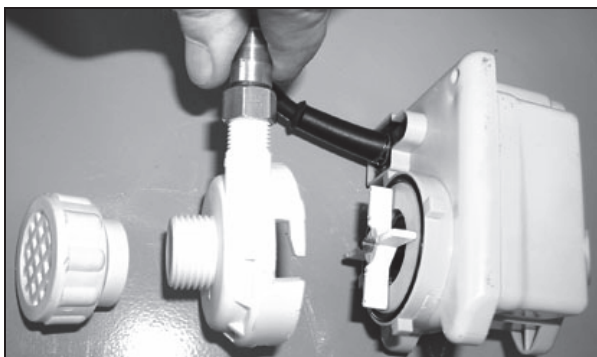

Fig. 5.3 Exploded view of the wet-pit- (water-) pump
2. Remove the cover (fig. 5.3). (Attention: Make sure not to damage the sealing side due to the use of sharp-edge tools!)
Inside the two swivel plates there is one hex-socket set screw each serving as a 90-degree limit stop for the mitre cuts adjuster (fig. 5.3). These set screws allow the 90-degree setting of the adjuster to be corrected if and when required.